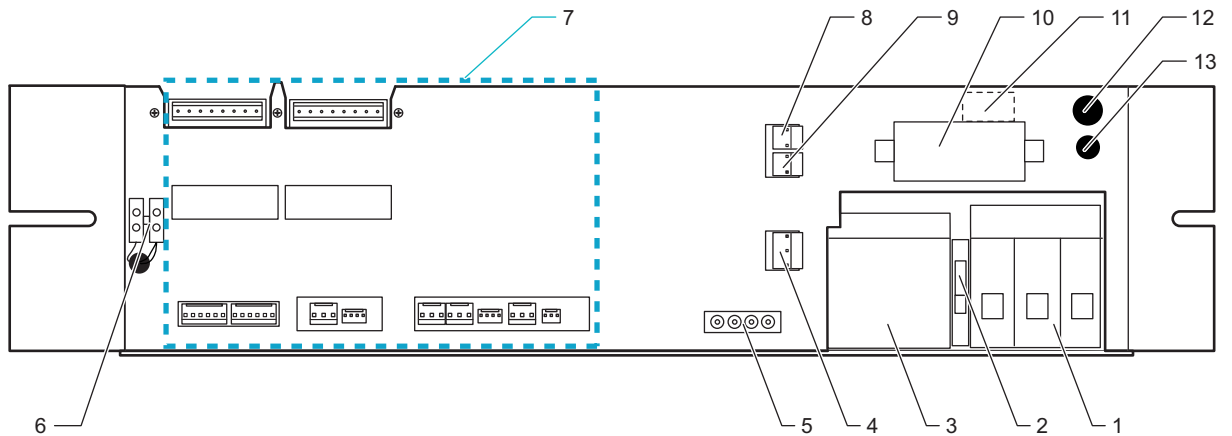

Fig. 4: Underside of the E-Box (V/D 65 I – 200 I)
The circuit board also has three switched 230 V outputs (via optocoupler, TRIACs – see Fig. 4: oben pos. 7, 8, 9) for the following: